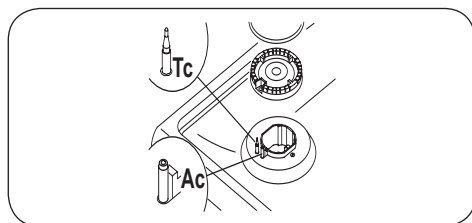

Fig. 3
**Warning!** Check that the heads burners and the relative burner caps, are correctly positioned in their housings (fig. 3).